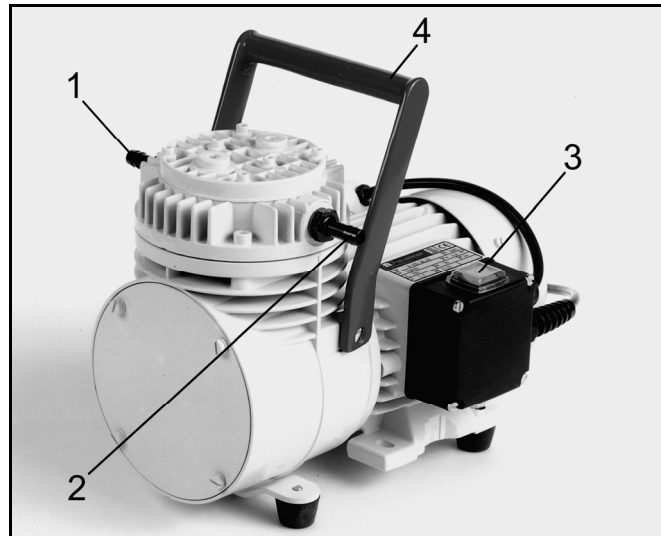

Fig. 2: Diaphragm Pump N 035 AN.18
- Switch on pump with mains switch (see fig. 2, 3 or 4, position 3).
- Switch off pump with mains switch (see fig. 2, 3 or 4, position 3).